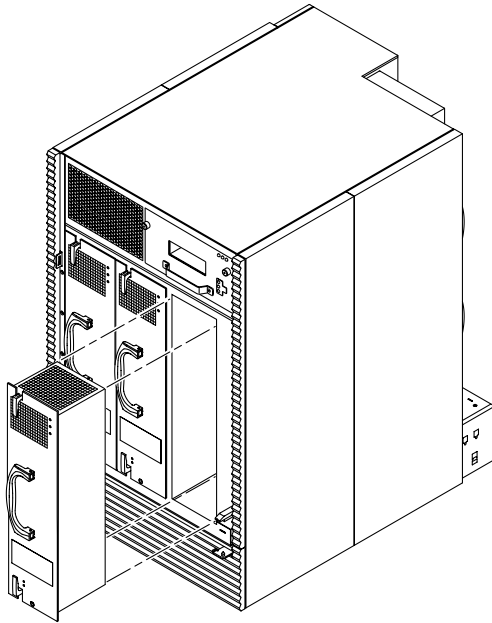

FIGURE 12-21 Removing a Power Supply at the Front of the Sun Fire 4800 System
FIGURE 12-21 shows removing one power supply from the system.
7. Replace the power supplies (FIGURE 12-21).